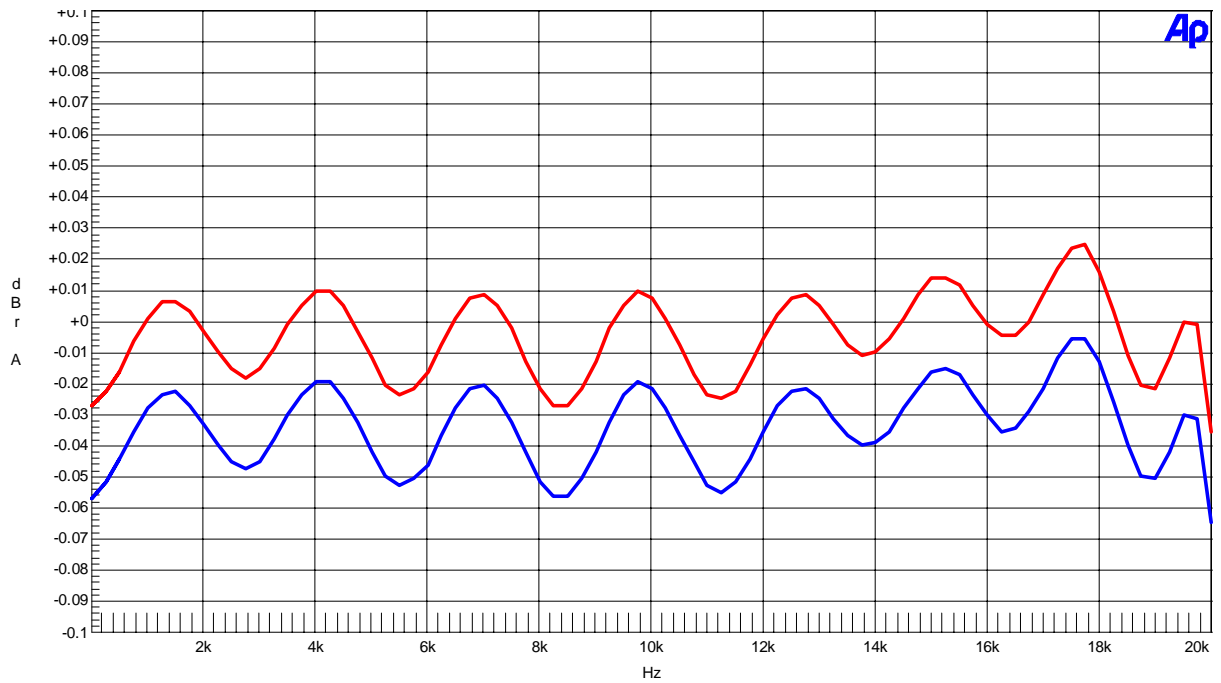

Figure 15. Frequency Response AOUTL Pin / AOUTR Pin (Input Level=0dBFS)
- Figure 15. Frequency Response (Input Level=0dBFS)